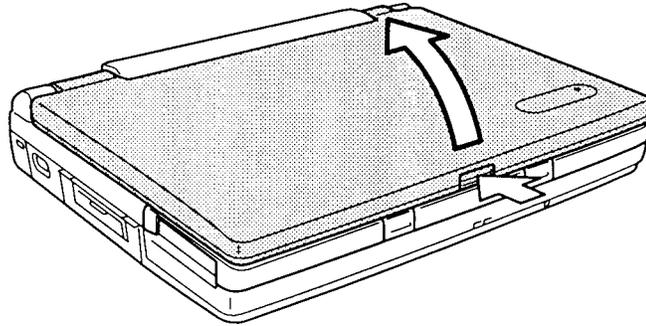

Figure 4-1 Opening the display panel
To remove the T2150 series battery pack, follow the steps below and refer to figures 4-1 to 4-3.
To install a battery pack, follow the steps below and refer to figures 4-1 to 4-3.
2. Carefully insert the new or recharged battery pack. Set the grooved end against the battery contacts first, then lay the battery in place. Be sure the end of the plastic tab lies on top of the battery (figure 4-1).